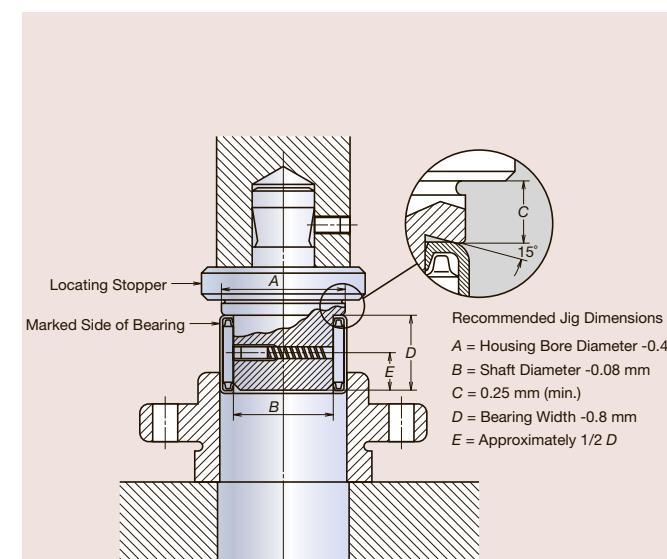

Fig. 2 Example of Jig
When a drawn cup needle roller bearing is pressed into a housing bore, it is necessary to use an appropriate jig to prevent deformation of, and damage to, the outer ring, as shown in Fig. 2.
(1) The marked-side face should be placed onto the shoulder of the jig.
(2) A hand press should be used for press fitting. Avoid using a hammer or other such instruments.
(3) Use of a snap ring or shoulder to determine the position of the bearing is not necessary. However, when using a housing with a shoulder, the bearing side face should not touch the shoulder in order to prevent bearing deformation.
(4) The guide and locating stopper shown in Fig. 2 are installed in order to apply press fitting accurately. The ball shown in Fig. 2 helps the jig hold the bearing and prevent roller inclination while facilitating mounting work.